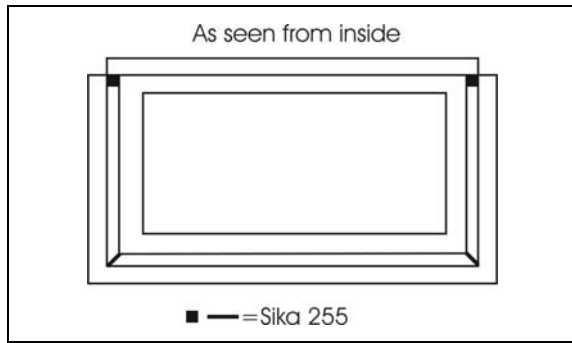

FIGURE 67: Sika 255 APPLICATION
3. Apply Sika 255 (or 252) at the upper and lower frame corner as per FIGURE 67.